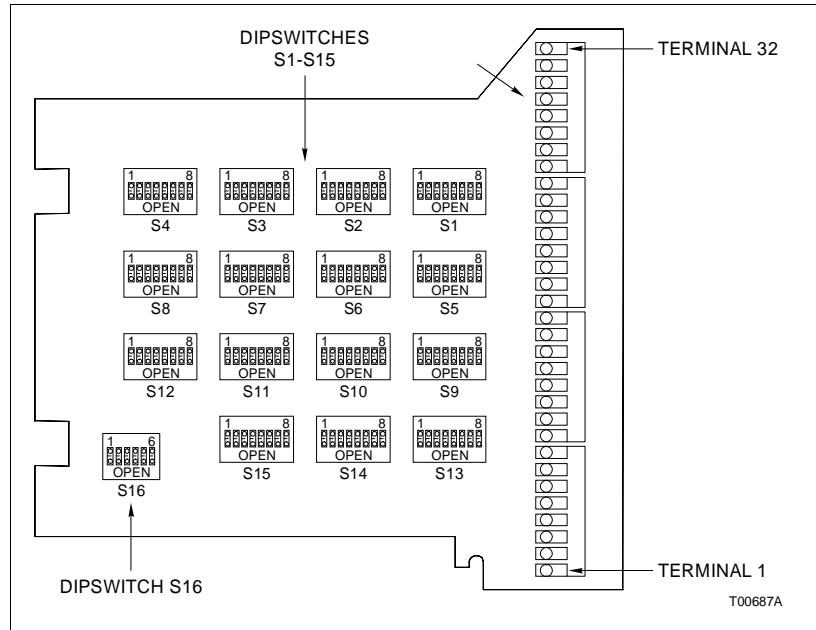

Figure 2-1. NIAI04 Termination Module
Set up the Termination Module (TM) to accept the analog field inputs sent to the slave module. Refer to Appendix A or Appendix B to find the setup for your application. Figure 2-1 shows the NIAI04 Termination Unit.